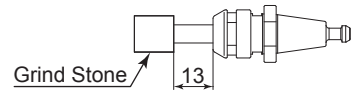

Fig. 18
- (1) The proper surface speed for general grindstones is 10 - 30m / s.
- (2) Do not exceed 13mm of overhang for mounted grindstones as shown in Fig. 18. If the overhang must exceed 13mm, reduce the motor speed in accordance with Table. 3.
- (3) Dress the grindstone prior to use.
- (4) Do not use cutting tools with bent or broken shanks, cracks or excessive run-out.
- (5) For grinding, the maximum depth of cut should not exceed 0.01mm radially or axially. Reciprocate the tool several times after each pass to eliminate tool pressure.
- (6) Always operate cutting tools within the allowable recommended speed of the cutting tools. Use of a cutting tool outside of the allowable speed of the cutting tools could cause damage to the Spindle and injury to the operator.
- (7) When replacing the tool, make sure the tool shank, collet, collet nut, and inner face of the collet holder are clean. If ground particles or metal chips stick to the inside of the collet, damage to the collet holder or Spindle can occur due to the loss of precision.
- (8) Do not strike or disassemble the Spindle.
- (9) Please set the cutting tools to minimize the overhang. 13mm is the maximum amount of overhang to maintain high accuracy and safety.